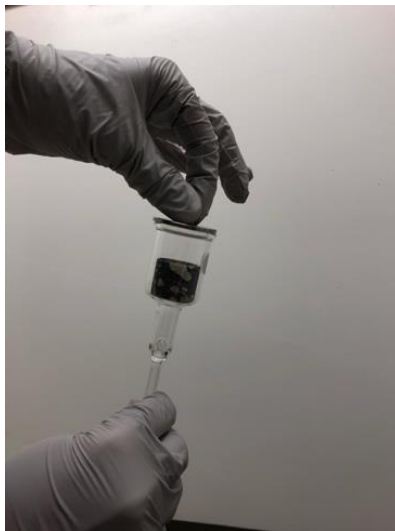

Figure 7. Checking seal on electrode
- Place the electrode against the rim and rotate at least 45 degrees. If you have a good seal, you will be able to lift the cell vertically with one hand while supporting the cell with the other as shown in Figure 7.